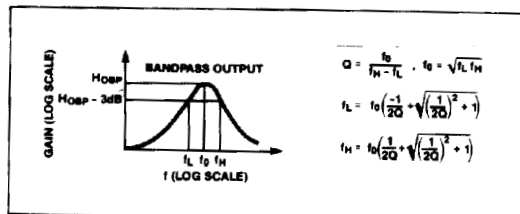

Figure 1. Bandpass Filter Terminology
- H_{OBP} : The gain in V/V of the bandpass output at $f=f_0$. See Figure 1.